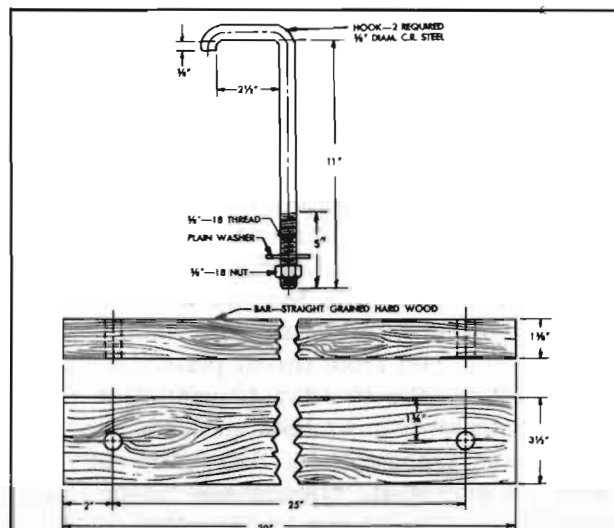
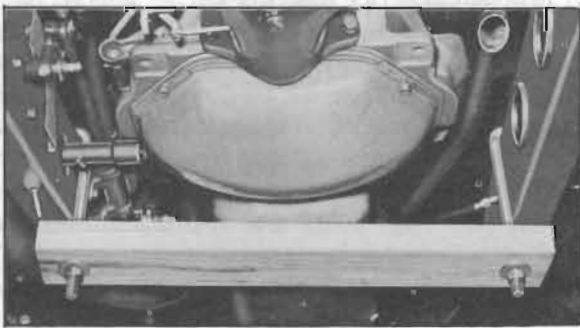

Figure 4-25—Engine Support Bar and Hooks
Figure 4-26—Support Bar under Rear End of Engine
A safe and convenient engine support bar with two hooks can be made locally from the details given in figure 4-25.
4. Support rear end of engine by installing support bar (fig. 4-25) under rear end of lower crankcase. Place left side hook over frame between brake master cylinder and clutch release equalizer. Tighten nuts on both hooks evenly. See figure 4-26.